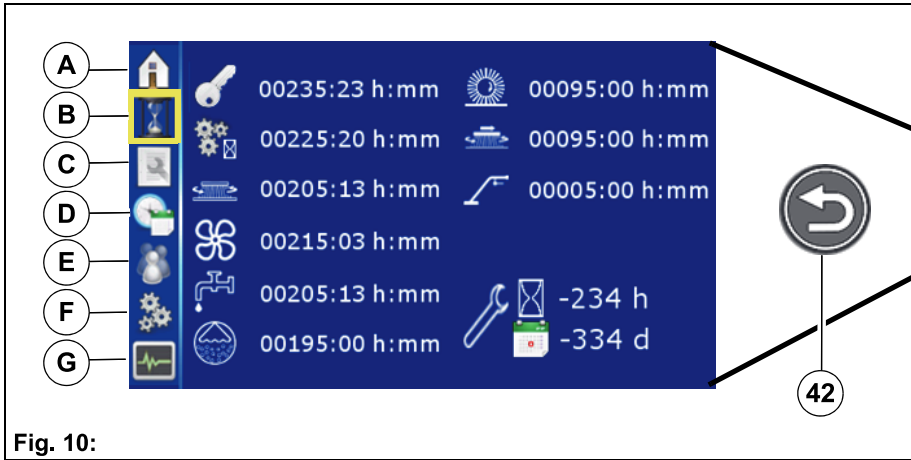

Fig. 10:
- the soft key *Home* **Fig. 10-A** or
Operating hours meter menu Fig. 10-B
Maintenance menu Fig. 10-C
**Maintenance menu Fig. 10-C continued**
**Time/Date menu Fig. 10-D**
**User settings menu Fig. 10-E**
**Configuration menu Fig. 10-F**
**Service information menu Fig. 10-G**